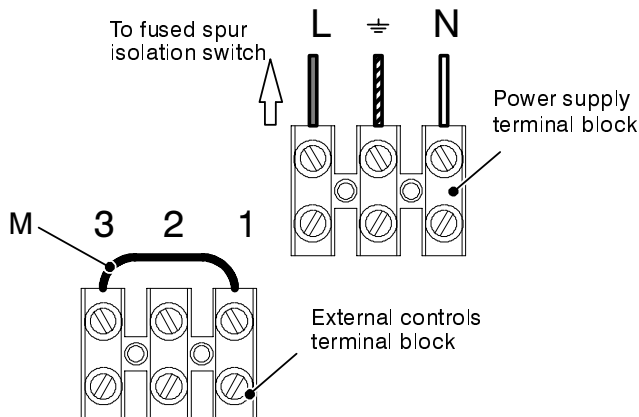

Fig. 6.14
- 6 Connect the electrical supply flexible cord coming from the fused spur isolation switch to the power supply terminal block of the boiler (Fig. 6.14) keeping the same connections for the live (brown wire) and the neutral (blue
**When connecting any type of external control, the link M in Fig. 6.14 must be removed.**